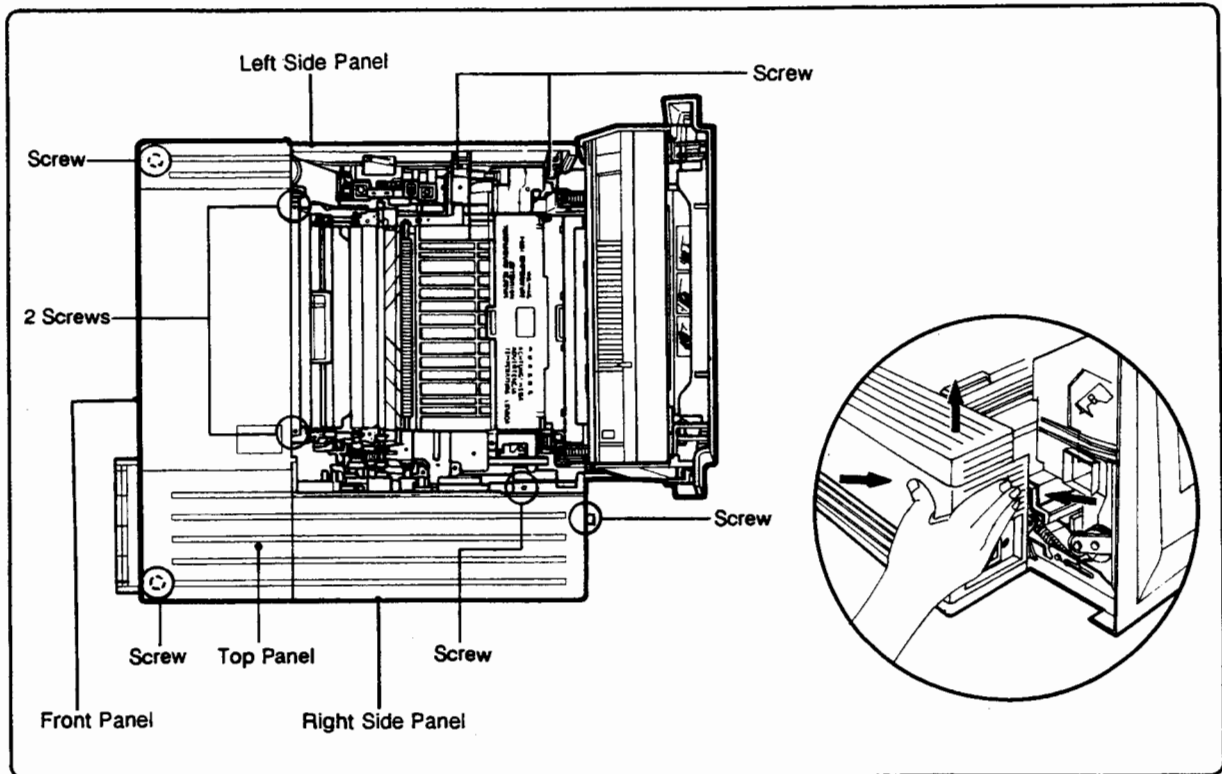

Figure 6-7. HP 33449 Main Body Covers
It is recommended that the four interlocking cover panels that form the HP 33449 Main Body Covers be removed one at a time as described below (see Figure 6-7). Structural damage can occur if the assembly is removed as a unit.
2. To remove the top cover panel of the Main Body Covers, open the hinged Top Cover Assembly and remove the screws (3) securing the top cover panel, then push in on the *right side cover panel* at the points shown in Figure 6-7. Rotate the rear of the top cover panel to vertical before lifting it off.
3. Remove the right side cover panel by removing the screws (2) – one at the rear next to the Power Switch and one attaching it to the front cover panel – and lifting it vertically out of the printer. Note that the Fan Guide panel (Power Switch area) which contains the model and serial number plate can be detached from the right side cover panel (see following).
4. Remove the left side cover panel by removing the screws (3) – two attaching it to the base plate and one attaching it to the front cover panel – and lifting it vertically out of the printer. Be careful to keep the front cover panel from falling. (**Hint:** Leave the paper tray installed to hold the front cover panel in place.)